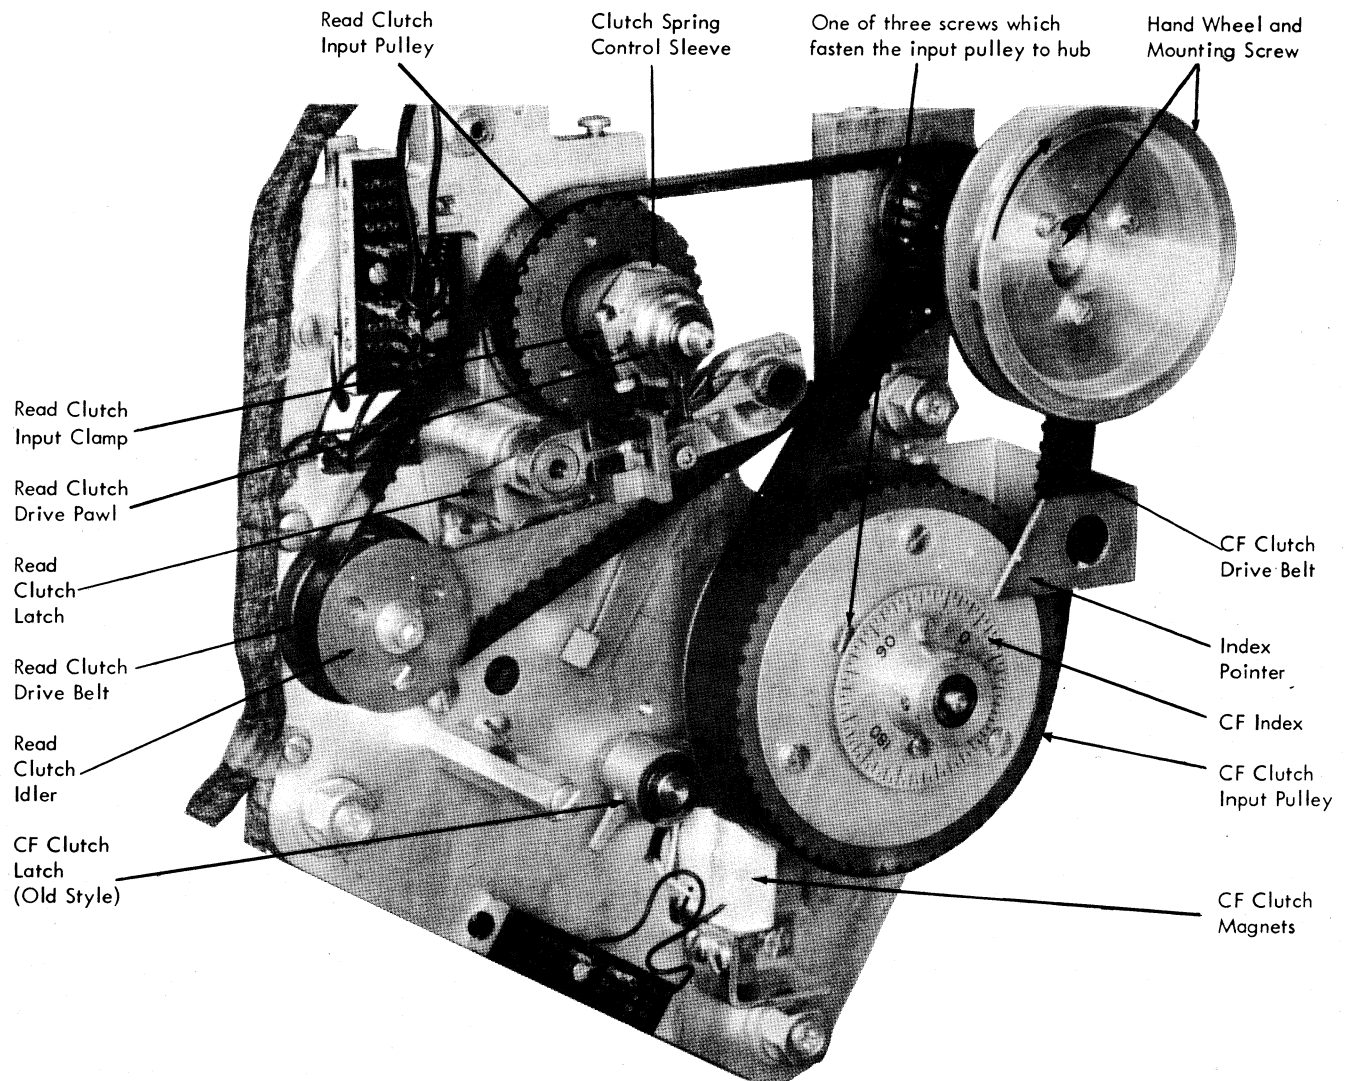

Figure 4-5. Card Feed Clutch and Read Clutch Removals
2. Remove index pointer (Figure 4-5).
1. Remove safety shield and read clutch drive belt. See Figure 4-5.